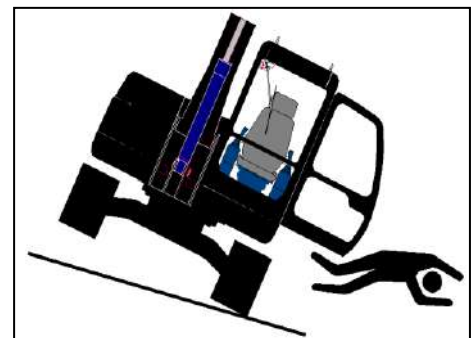

Figure 1.13
- 6) If signalman needed, the signalman should use hand signal. Only when both signalman and operator understand the meaning of signal, the operator can operate the machine traveling and swinging (As figure 1.13).